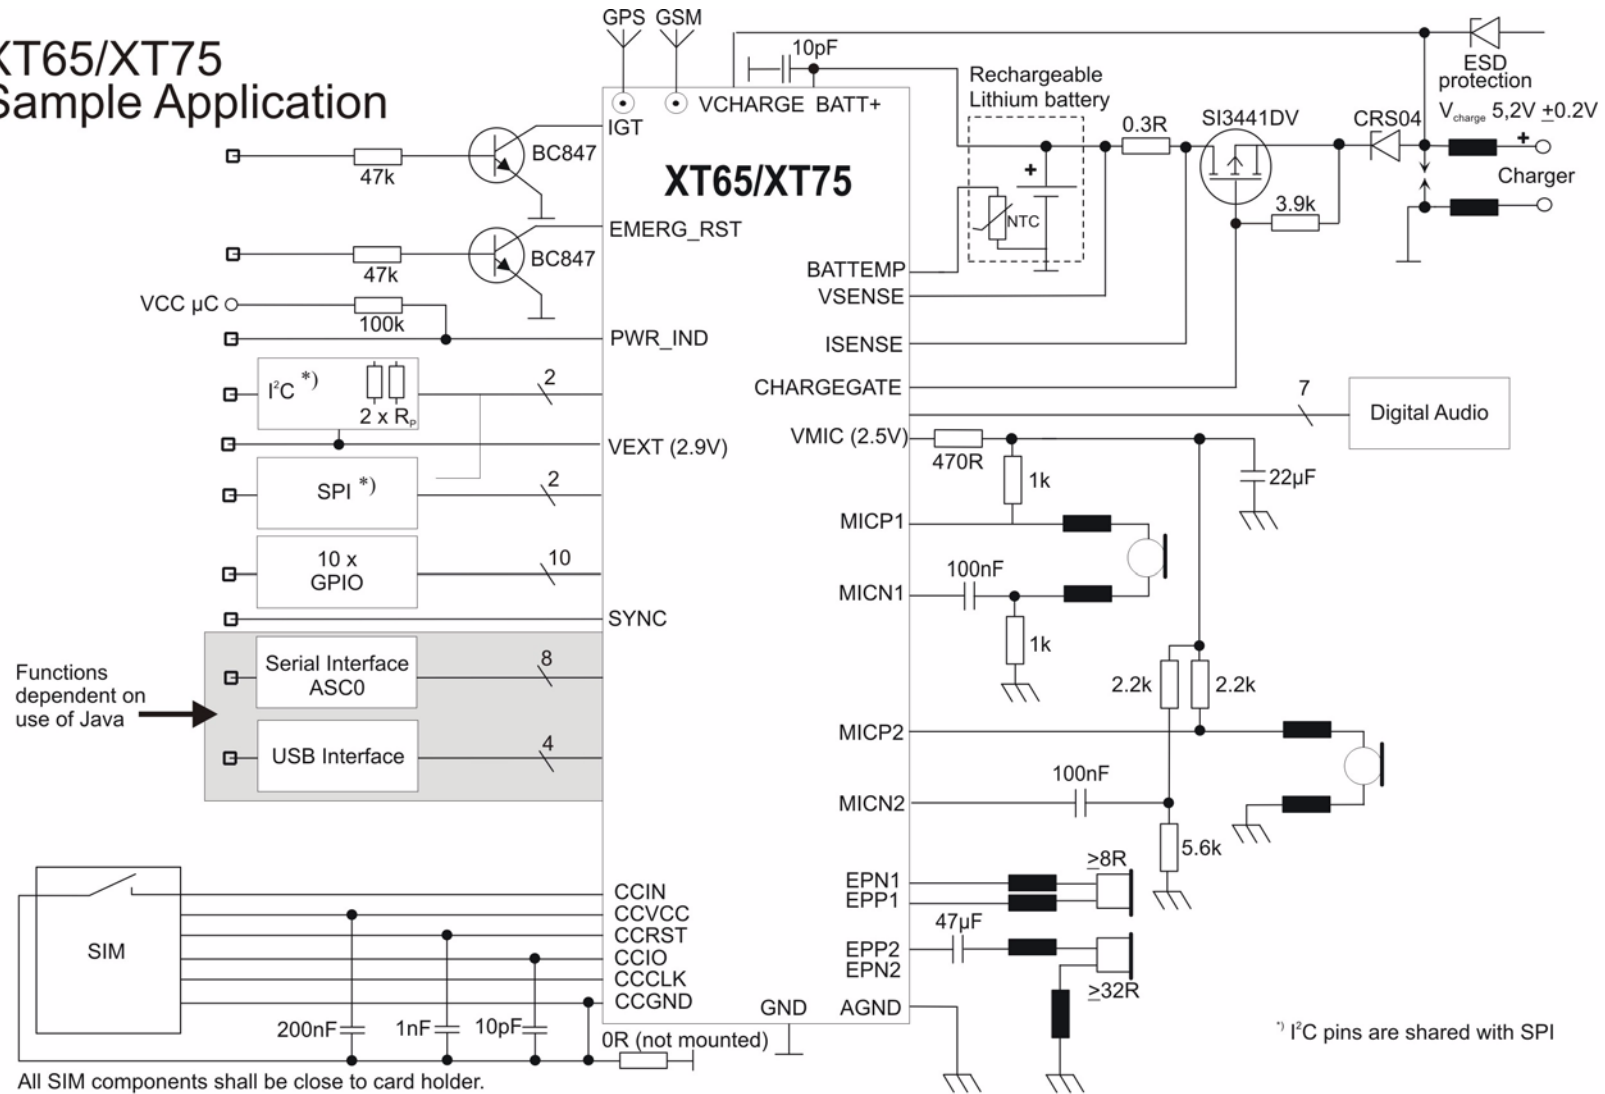

Figure 55: XT65/XT75 sample application
- 53748-0808 SlimStack Plug, 3mm stacking height, see Figure 55 for details.
Figure 55 shows a typical example of how to integrate a XT65/XT75 module with an application. Usage of the various host interfaces depends on the desired features of the application.
No warranty, either stated or implied, is provided on the sample schematic diagram shown in Figure 55 and the information detailed in this section. As functionality and compliance with national regulations depend to a great amount on the used electronic components and the individual application layout manufacturers are required to ensure adequate design and operating safeguards for their products using XT65/XT75 modules.